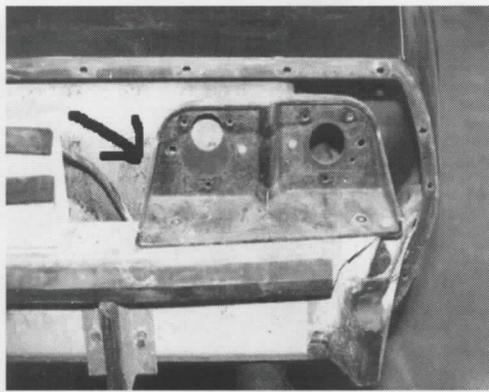

FIG. 7
7. **FOR 75 – 79 CARS...** REMOVE LEFT AND RIGHT TAIL LIGHT HOUSINGS FROM IMPACT BAR (SEE FIG. 7).